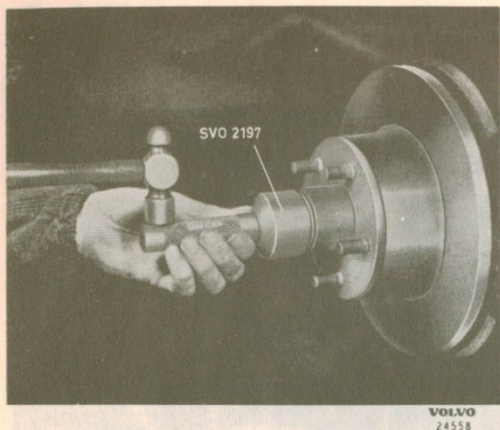

Fig. 6-6. Removing the grease cap
4. Remove the grease cap with tool SVO 2197 (Fig. 6-6). Remove the split pin and castle nut. Pull off the hub with puller SVO 1791. (Fig. 6-7). Pull off the inner bearing from the steering knuckle spindle with puller SVO 1794 (Fig. 6-8) if the bearing remains in place.